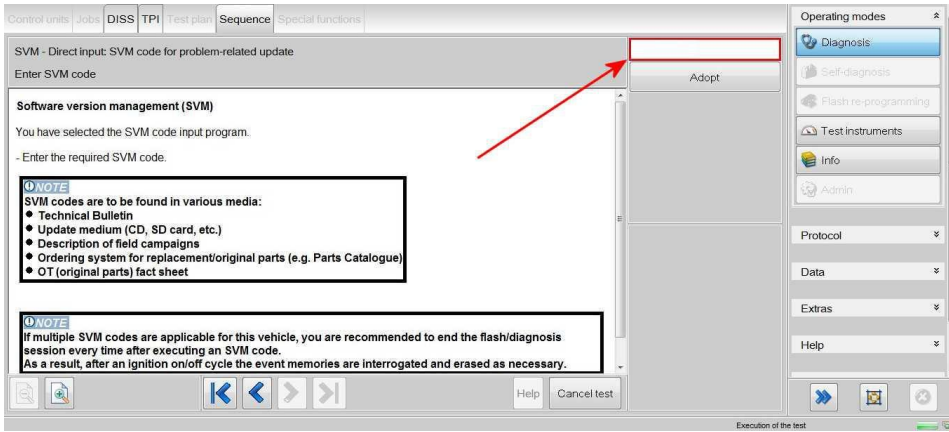

Figure 2
2. On the next screen enter the SVM code 4V0PLZDC01 and select Adopt (Figure 2).
7. On the next screen enter the SVM code 4V0PLZDC02 and select *Adopt* (Refer back to Figure 2)